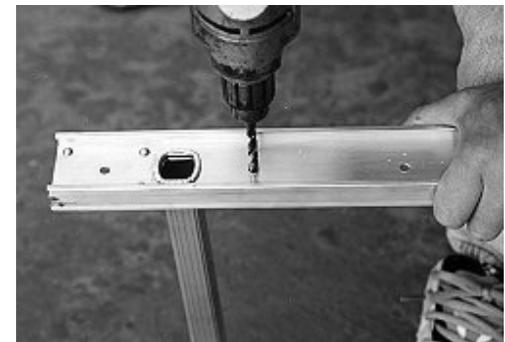

Figure 1-2
4. Drill all three (3) holes using an 11/32" diameter drill bit (see **Figure 1-2**). **NOTE: Holes must be drilled accurately or studs on Leveler will not align properly. Use a center punch if possible, or drill smaller 1/8" pilot holes first.**